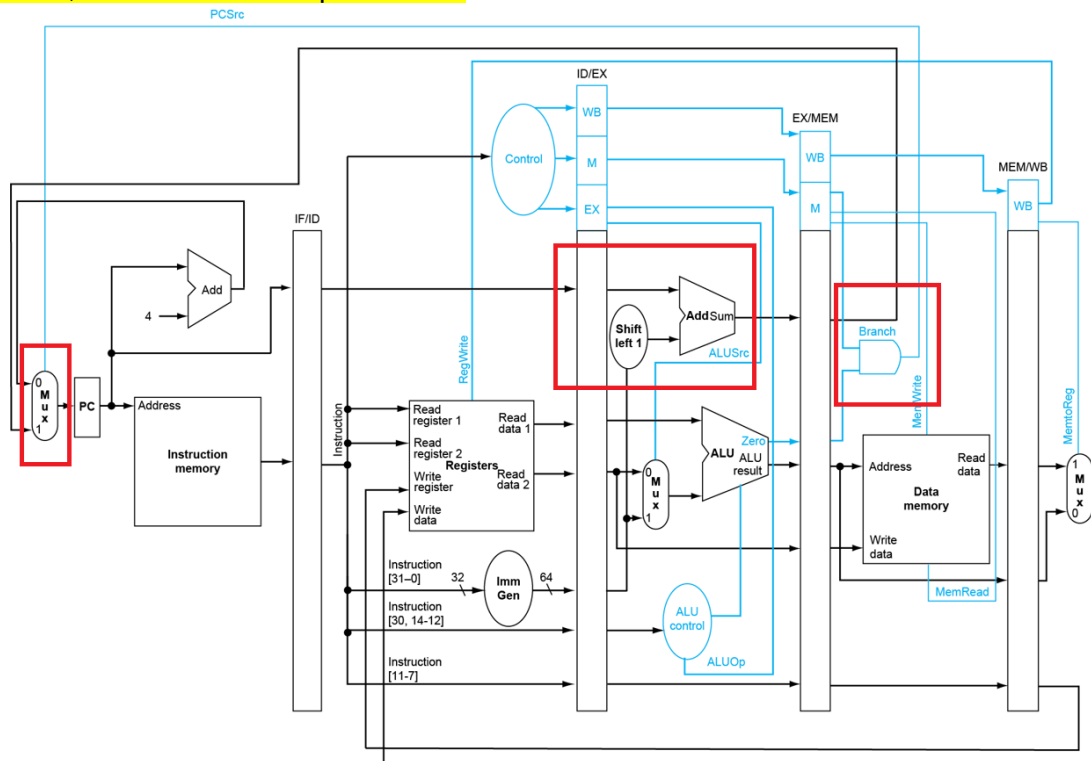

Figure 1
- ◆ Adding the conditional branch instructions follows the logic shown in Figure 4.49 of the textbook, reproduced below as Figure 1. The functions in the three red rectangles must be added.
- ◆ In the EX stage, add the Adder component which adds the PC value to the correct immediate value. The "Shift Left 1" function in Figure 1 is not necessary, as this function is handled in the IMMGEN logic. The output of the adder (s\_ex\_target\_address) will be used below. Add the zero signal coming out of the ALU.